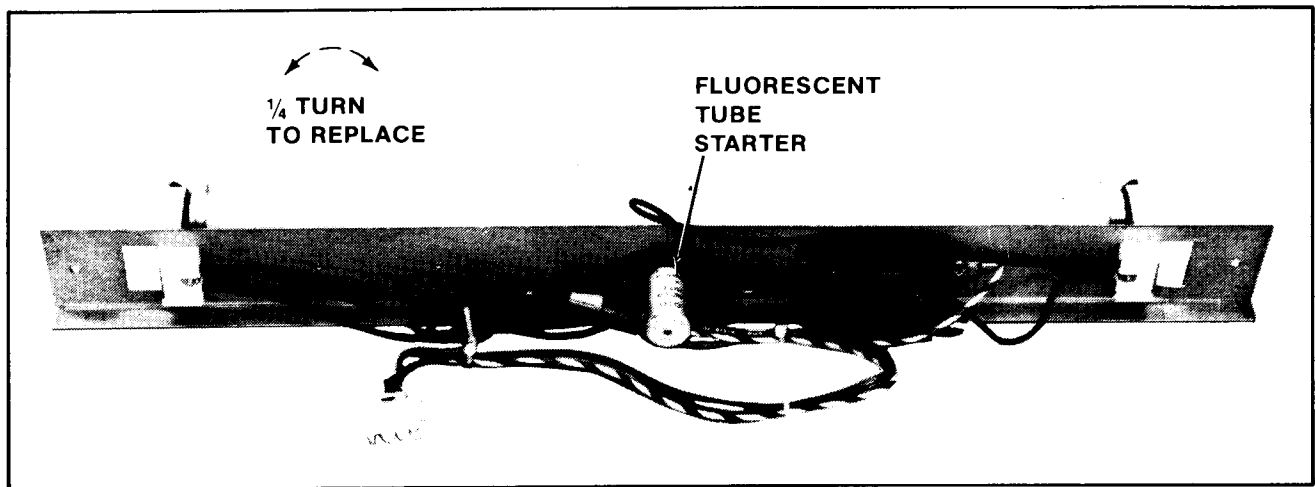

Figure 4-16 Replacing Fluorescent Tube Starter — Upright
- ❑ Replacing the fluorescent tube starter. See Figure 4-16.
- Replacing the fluorescent tube starter. See Figure 4-16.
4. Replacing the black light tube starter. See Figure 4-16.
3. Replacing the fluorescent tube starter. See Figure 4-16.